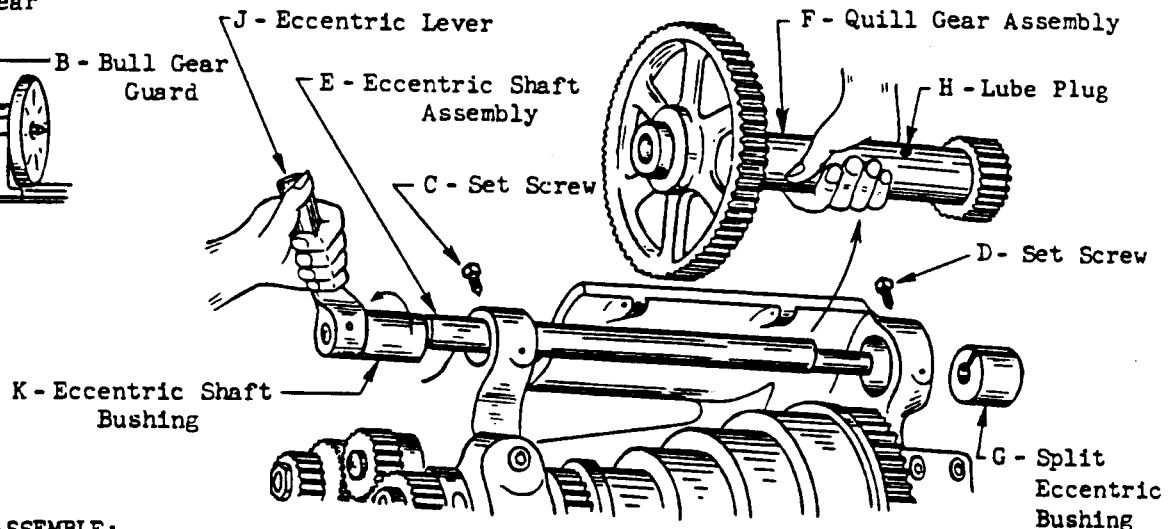

Fig. 2
2. Loosen screw "C" (Fig. 2).
3. Remove items "D" thru "I" (Fig. 2) in alphabetical order.
2. Remove items "C" thru "G" (Fig. 2) in alphabetical order.
1. Remove oil plug "H" (Fig. 2) and fill with teflon grease, our CE1625 or equal.